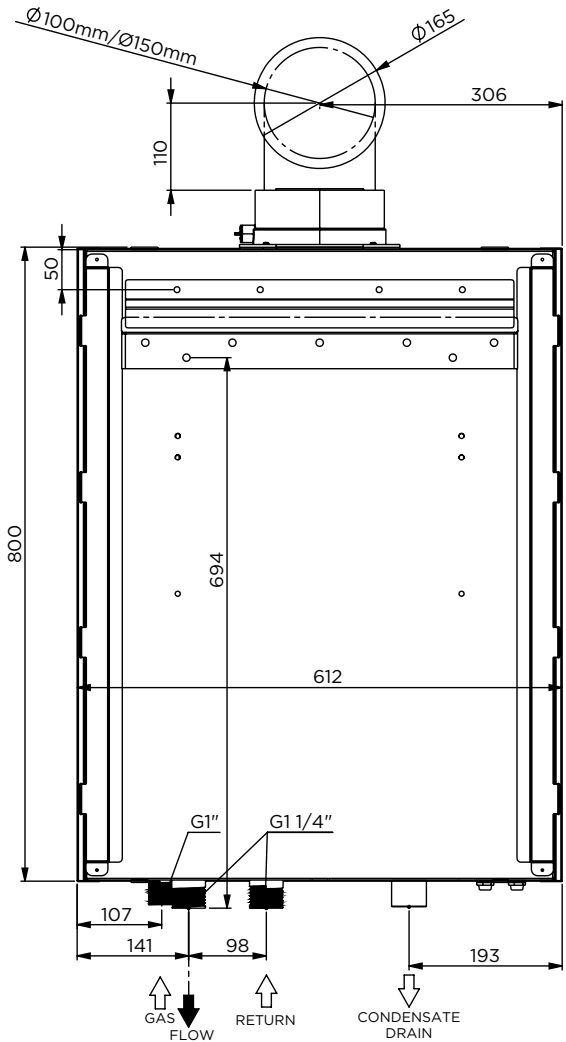

Figure 2.1 Mounting template
- I. Mounting Template (Figures 2.1 and 2.2)